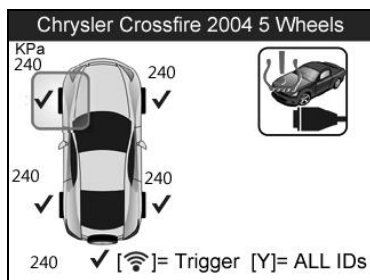

Figure 3.16
- 2) A function menu screen with the previously activated sensor information will show up (Figure 3.16), use the **UP/DOWN** or **LEFT/RIGHT** scroll button to select a scanned wheel, and then